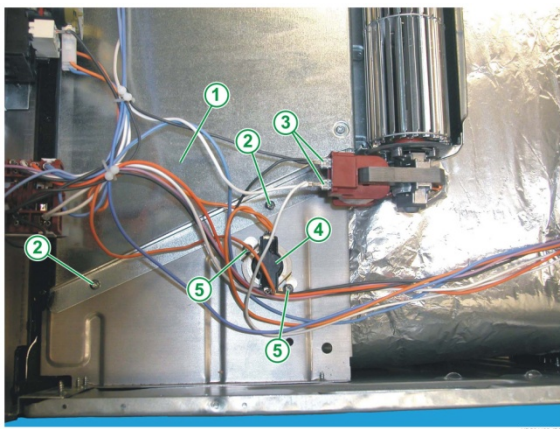

Fig. 17
18. Fix the safety thermostat with the relative two screws (see Fig. 17).
19. Reconnect the motor fan electrical connections (see Fig. 17).